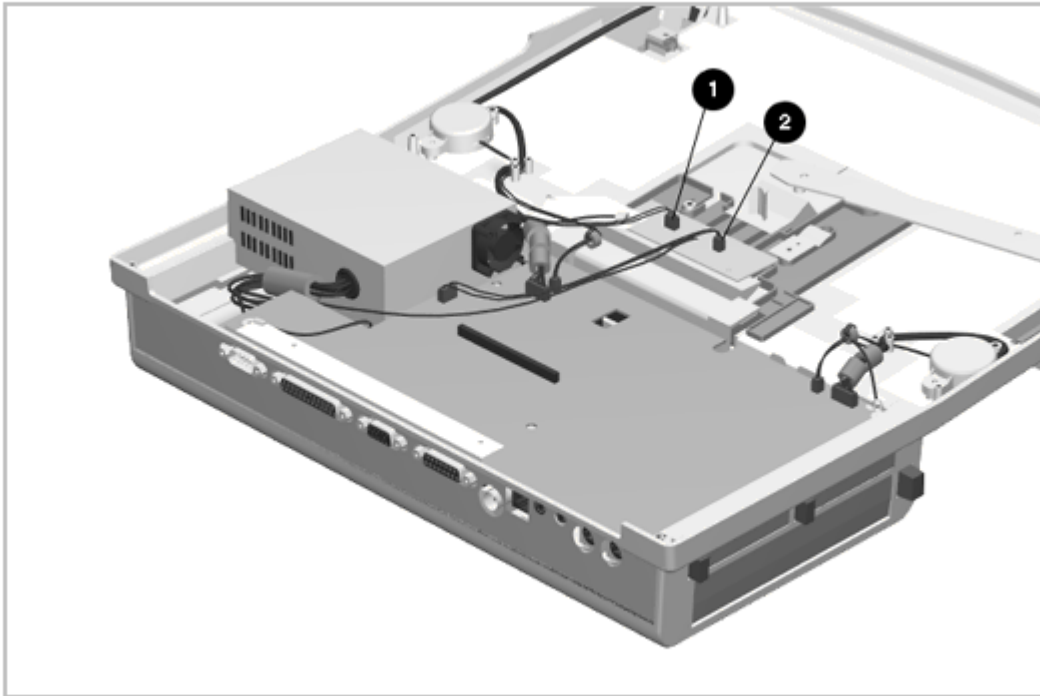

Figure 6-16. Disconnecting the Fan Control Board
5. Disconnect the fan [1] and fan power [2] at the Fan Control Board (Figure 6-16).